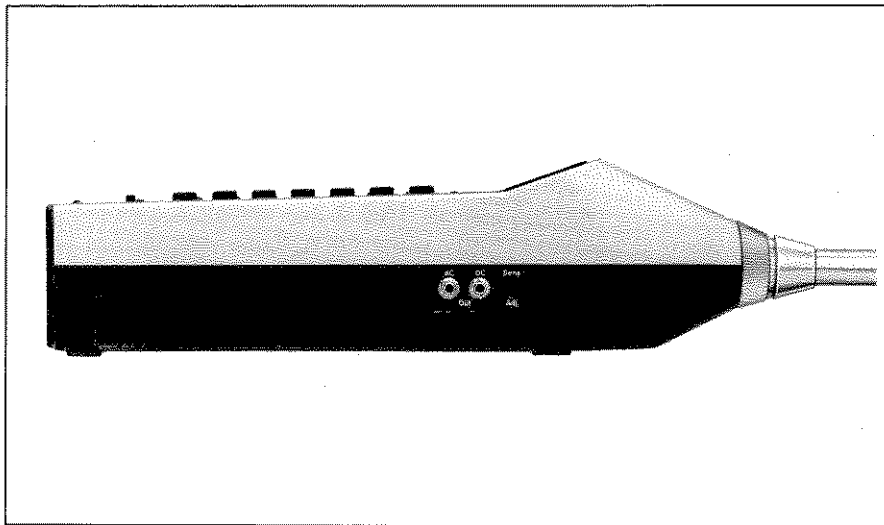

Fig. 2.8. Side view of the 2231 showing the Sens. Adj. potentiometer
4. Using the **Sens. Adj.** potentiometer on the side of the instrument (see Fig.2.8) adjust the sensitivity until the display shows a value of  $94,0\text{dB} + \text{K-factor}$ .
5. Switch on the Calibrator and adjust the **Sens. Adj.** potentiometer on the Sound Level Meter (see Fig. 2.8) until the display shows a value of 93,8 dB for Microphone Type 4155. For other microphones see the 4230 Instruction Manual.
6. Switch on the Pistonphone and adjust the **Sens. Adj.** potentiometer on the Sound Level Meter (see Fig.2.8) until the display shows 124,0dB. (This is the nominal level. The actual level will depend on the ambient conditions\*).